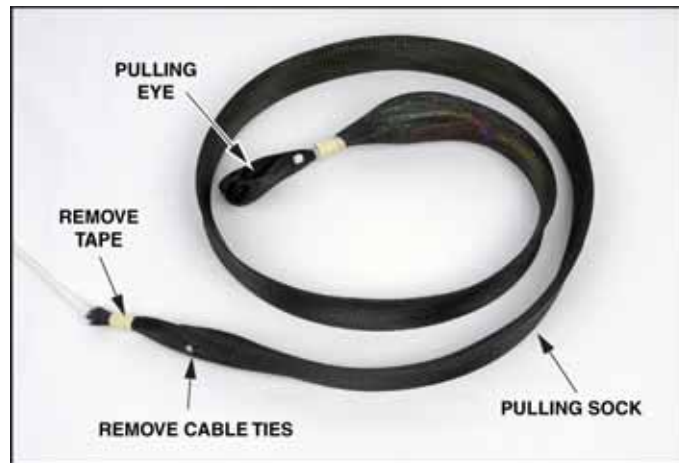

Figure 57. Remove Pulling Sock from Fanout Assemblies
- a. If the fanout is wrapped within a pulling sock, such as shown in Figure 57, remove the pulling sock from the end of the microcable by first peeling away the tape and then cutting the two cable ties at the point shown. Next, slide the sock off the cable assembly and remove the pink bag from the connectors. If a pipe protection is also present (used for fanout assemblies with 900 micron fibers only), remove the pipe (refer to Figure 58).